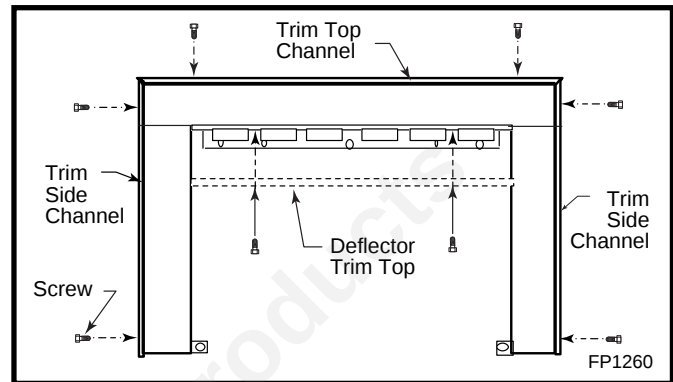

Fig. 39 Install trim channels and trim top deflector.
RHESS, RHESL and RHESXL (Fig. 39)
3. Install the trim top deflector and use two screws to fasten it. (Fig. 39 & 40)